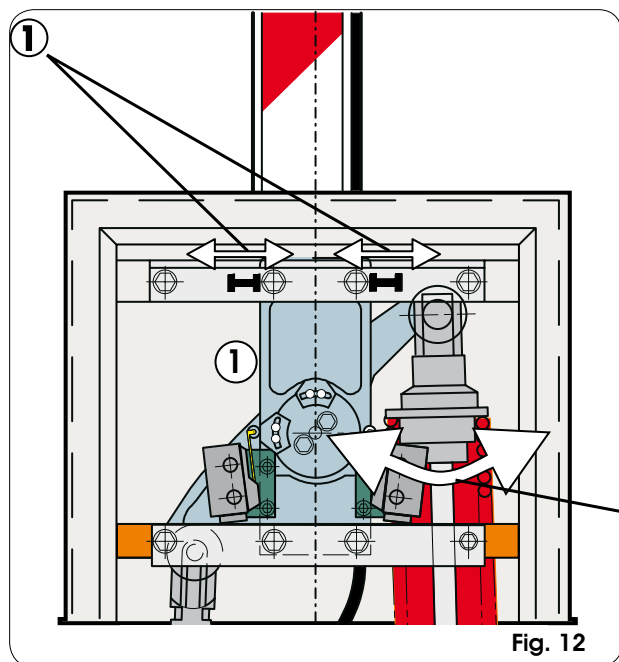

Fig. 12
- 5) Adjust the opening and closing travel limit mechanical stops as in fig.12 ref. ① and verify beam balancing following the instructions in paragraph 5.1.
- 2) If the barrier tends to close, turn the spring pre-loading ring-nut (Fig. 12 ref.②) clockwise; if it tends to open, turn it anti-clockwise.